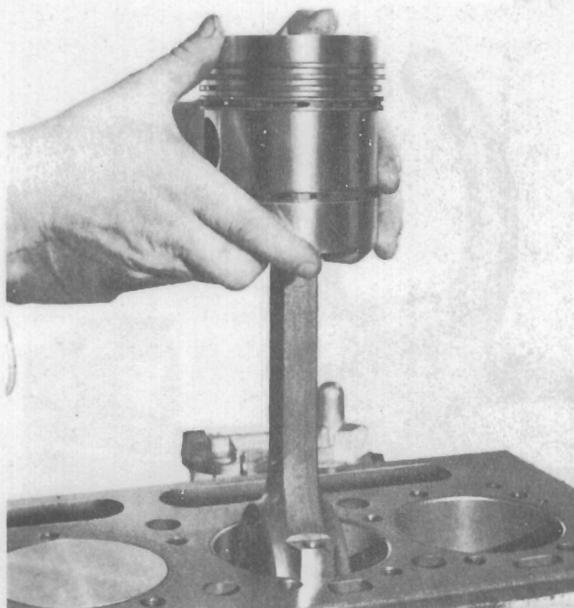

Fig. F.2.
7. Turn the crankshaft until the piston is at the top of its stroke, push the piston and its connecting rod up the bore sufficiently to enable removal of the top half of the big end bearing. Continue to push the piston and connecting rod up and out of its bore. (See Fig. F.2).